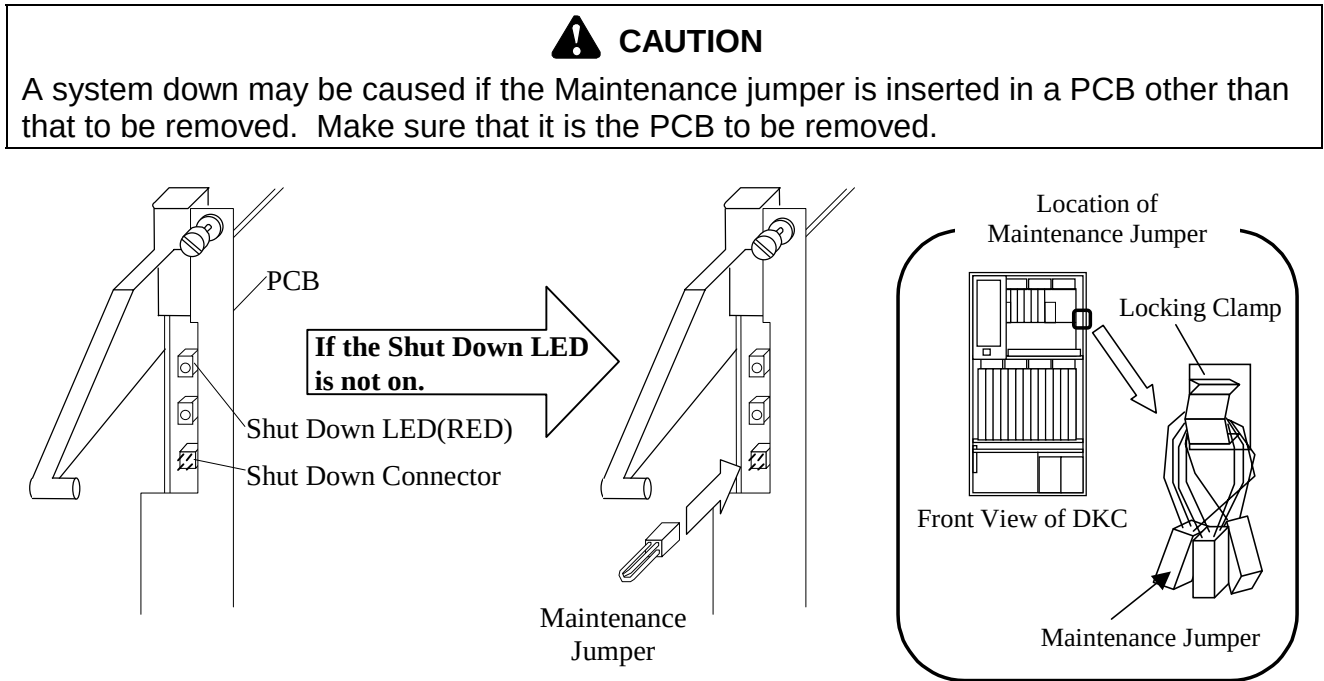

Fig. 4.4.3-1 Shut Down LED
- a. Confirm that Shut Down LED is on.(Fig. 4.4.3-1). If the LED is not on, connect the Maintenance Jumper to the Shut Down Connector.
- Remove the brackets and cable clamp referring to Fig 4.4.3-2.
- Disconnect the optical fibre cables referring to Fig 4.4.3-3.